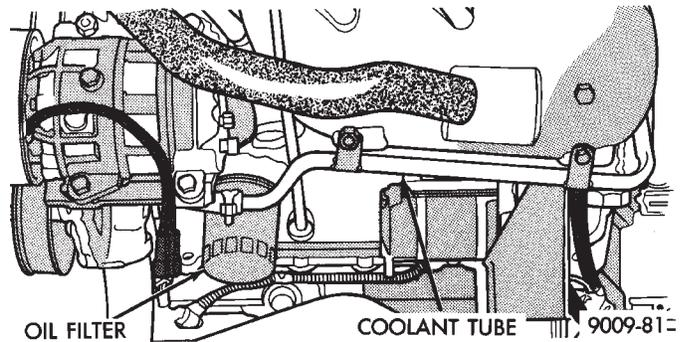

Fig. 14 Oil Filter
(1) Using Tool C-4065, unscrew filter from base and discard (Fig. 14).
(2) Wipe base clean, then inspect gasket contact surface.
(3) Lubricate gasket of new filter with clean engine oil.
(4) Install and tighten filter to 20 N•m (15 ft. lbs.) torque after gasket contacts base. Use filter wrench if necessary.
(5) Start engine and check for leaks.